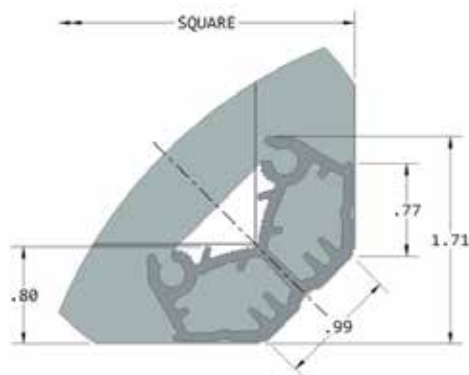

Figure 6
3. Custom corner extrusions: Our special aluminum corner extrusions (figure 6) contribute to the plate exchanger overall rigidity. Its hollow section enables you to use screws for the plate exchanger's installation with no risk of creating unwanted cross leakage. Its 45° angled corner also facilitates installation and reduces the diagonal dimension.